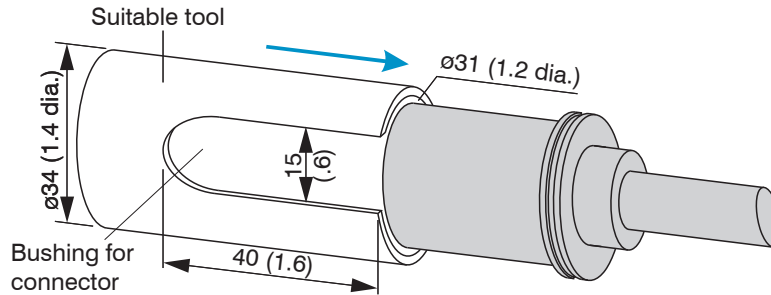

Fig. 7 Mounting of an induSENSOR, EDS- ... -S model
► Use a suitable tool for mounting, see Fig. 7.